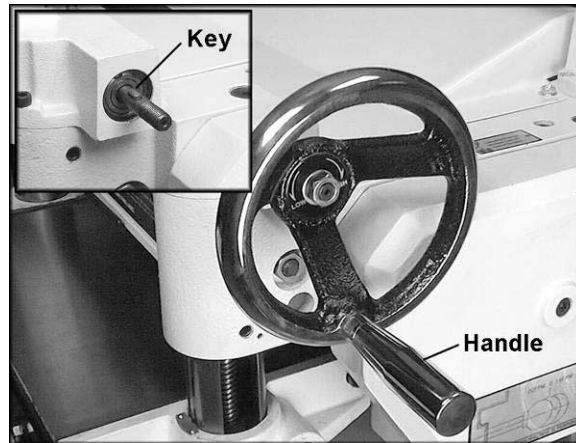

Figure 5
1. Place the key into the slot on the shaft (Figure 5), and mount the handwheel to the shaft, making sure it is oriented so that it slips over the key.